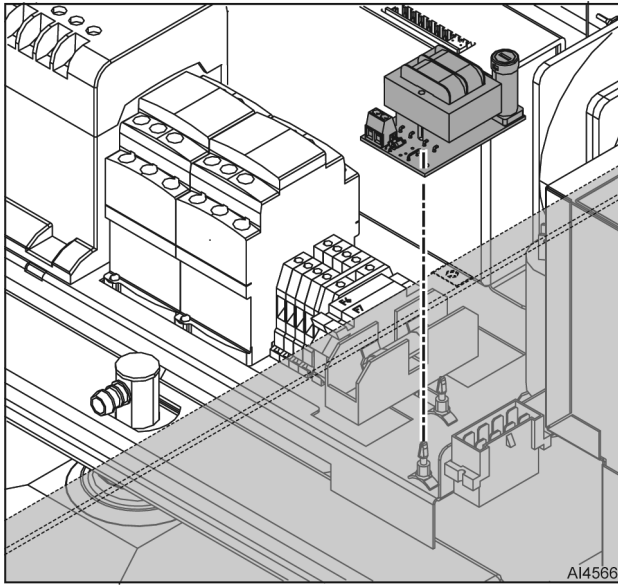

Fig. 13
3. Depress plastic stand-off tabs and remove vent transformer and circuit board (Fig. 13).